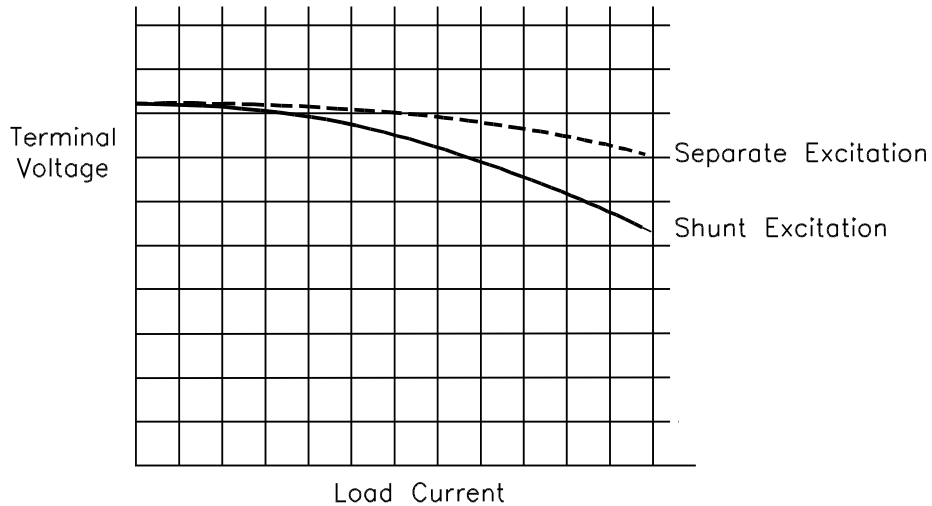

Figure 64
60. As a load is applied to the output terminals, the increased current causes the speed of the prime mover to drop. As the speed is one of the factors governing the generated e.m.f, the voltage will also drop as shown in Figure 64.
61. In Figure 64 it was shown that the load affected the voltage because of speed loss. The load is supplied by current from the generator therefore it can be expected that an increase in load current will cause a drop in voltage.